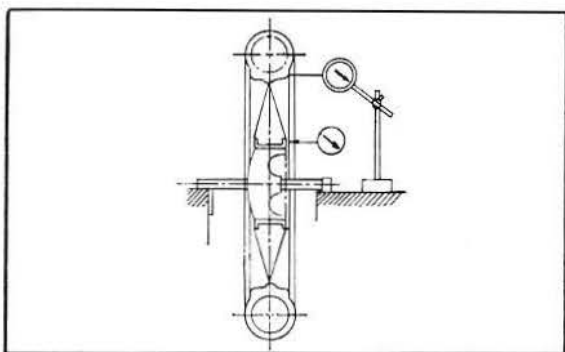

Fig. 4-4 Measuring rim runout
1. Measure rim runout. (Fig. 4-4)